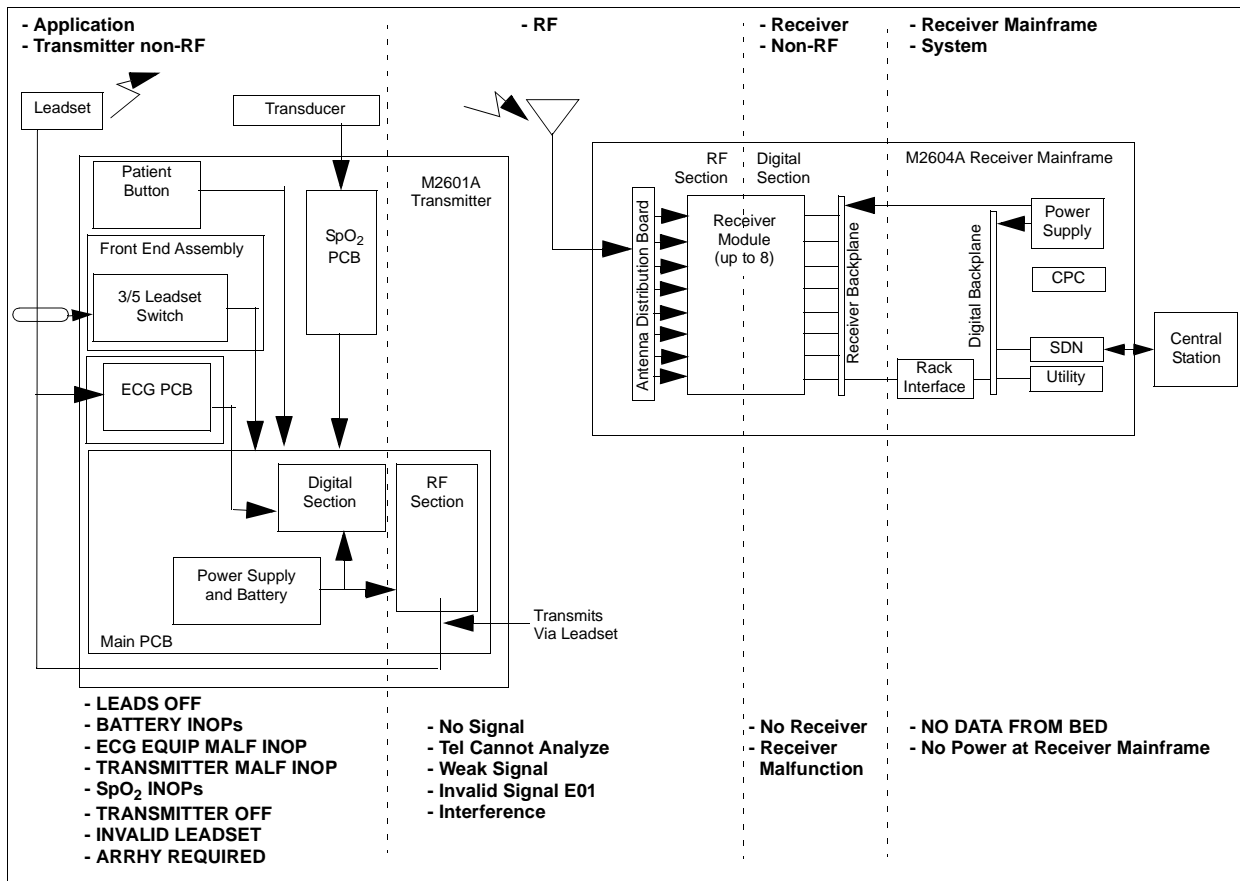

Figure 4-1 Philips Telemetry System Troubleshooting Map
This section presents symptoms that show up when faults occur. Each symptom has its own list of checks and procedures to troubleshoot the problem. Figure 4-1 is a representation of the symptoms included in this section and the subassemblies that can cause the symptom.
- Step 2. Find in Figure 4-1 where the symptom is located. This location gives a clear visual representation of the section of the system being affected by the fault.